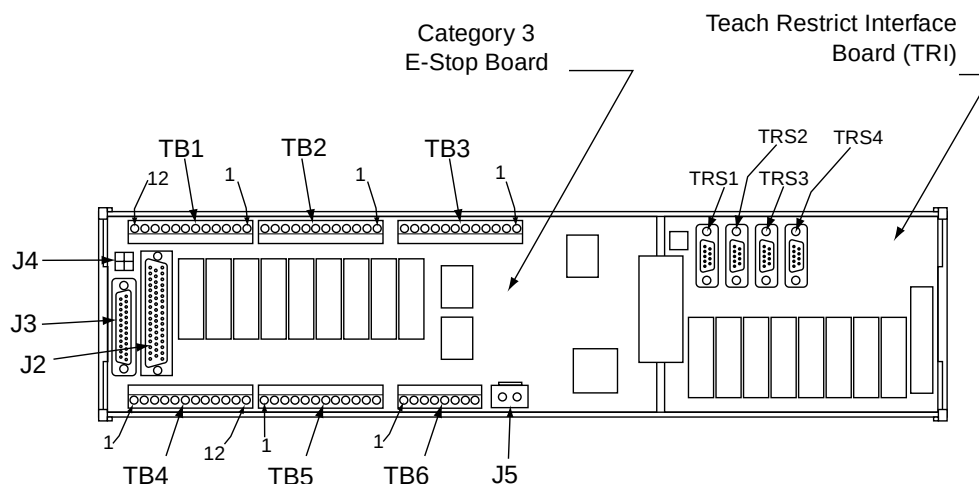

**Figure 5-15. Category 3 E-Stop Board and Teach Restrict Interface (TRI) Board on Control Rail**
Systems equipped with the MMSP option have two methods of installing emergency stop circuitry. The first method is to use the JUSER connector on the CIP. This method is detailed in Chapter 8. The second method is to use the TB4 and TB5 connectors on the security panel (see Figure 5-15). Both methods will yield functionally equal results as the state of the circuit on the Security Panel is forwarded to the CIP circuit (see item 11 on Figure 5-16). Wiring to the TB4 and TB5 connectors is mechanically simpler, and two additional sets of contacts for customer safety barriers are provided. Wiring to the CIP is covered in Chapter 8. Wiring to the TB4 and TB5 connectors on the security panel is covered in the following sections.
The Category 3 emergency stop and teach restrict equipment is located on the Control Rail on the Security Panel. Figure 5-15 shows the Category 3 E-Stop board and the Teach Restrict Interface (TRI) board.